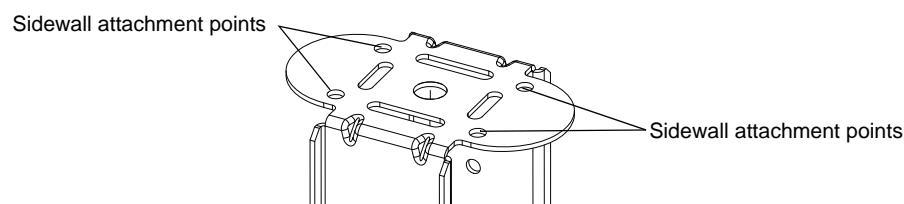

Figure 2-14 Four Side-Wall Mounting Attachment Points (and Required Orientation)
2. Attach the U bracket to the wall with installer-supplied hardware, using the holes and orientation as shown in Figure 2-14. We require that you use a minimum of four fasteners. We recommend M10 or 3/8-inch bolts.